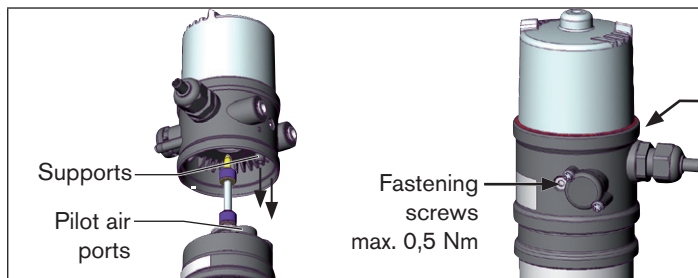

Fig. 9: Installation of the Pneumatic Control Unit, 21xx series
- Align the Pneumatic Control Unit until the supports of the Pneumatic Control Unit can be inserted into the pilot air ports of the actuator (see also "Fig. 9").